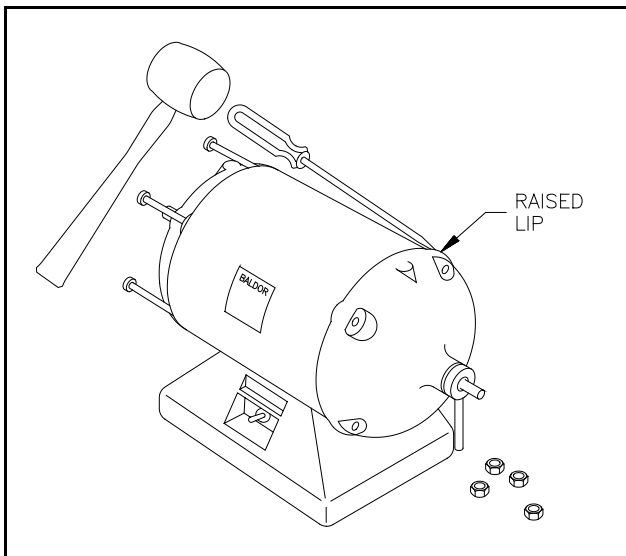

Figure 14. End plate removal
- 8.2.4 Place the screw driver blade against the raised lip of the right end plate and tap gently with a mallet. Alternate tapping on all four raised lips. See Figure 14.